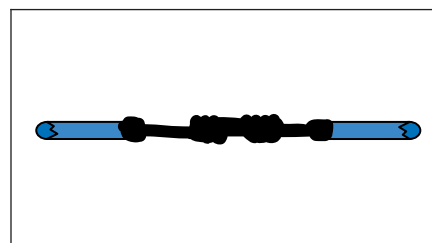

Figure 5 Cover with Heat-Shrinkable Tubing
10. Position insulation sleeve/tubing over the spliced area, apply heat to shrink to a snug fit over the splice and wire insulation. (See Figure 5.)